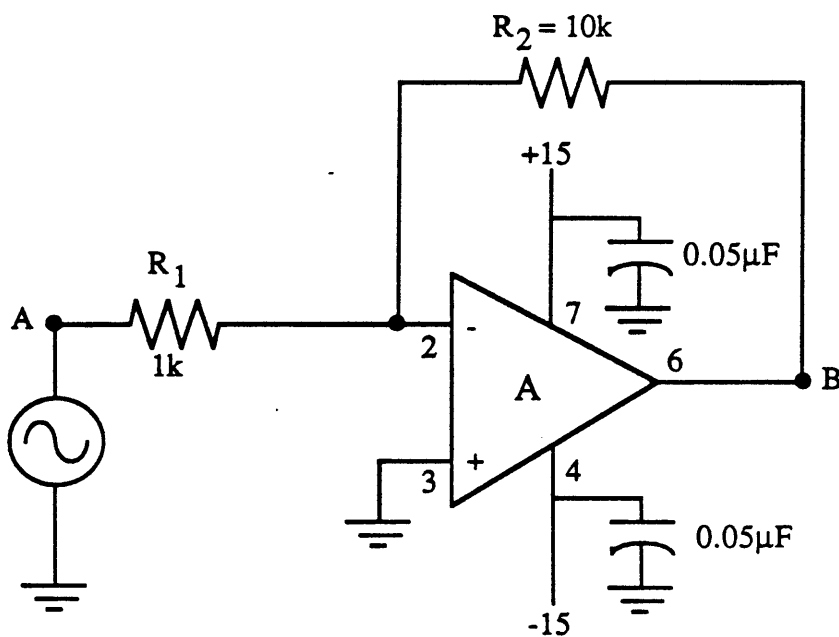

Figure 2 - Basic Inverting Amplifier Configuration
- (1) Set the signal generator to deliver a 2 V_{p-p} sine wave with zero DC offset at 1 KHz before connecting it to the circuit. (The displayed waveform will not jump when the coupling is switched from AC to DC if the DC offset is zero.)
- (2) Build the circuit of Fig. 2 using an LM741. Do NOT put the 0.05 µF capacitors in your circuit yet.
- (3) Display point A on channel 1 (CH1) with 1 V/cm, display point B on channel B (CH2) with 5 V/cm, and DC couple both channels.
- (4) Record the waveforms at points A and B in Table 6.3. Make special note of the phase difference between the two signals.
- (5) Replace the LM741 with an LF357 op-amp. The scope display should become unintelligible.
- (6) NOW connect a 0.05 µF decoupling capacitor from +V_{CC} to ground and from -V_{CC} to ground as shown in Figure 2. The circuit should now operate as it did in step 4.
- (7) Record the signal (peak-peak) amplitudes at points A and B in Table 6.4 and make special note of the phase difference between them.
Fig. 2 in the LM741 data sheet shows the open loop frequency response (gain versus frequency) of the device. An op-amp has its greatest gain when there is no feedback (open loop). However, this maximum possible gain decreases as the frequency to be amplified increases. As a matter of fact, the product of the frequency times the maximum gain at that frequency (the gain bandwidth product) is a constant from 100 Hz to 1 MHz.
3. (a) What is the overall gain (B/A) of the circuit of Figure 2? Use your data of Table 6.3.
(d) Reproduce Fig.2 from the LM741 data sheet on a sheet of graph paper, add lines for each of the gains calculated in part (c), and find the frequency at which each line intersects the open loop curve.